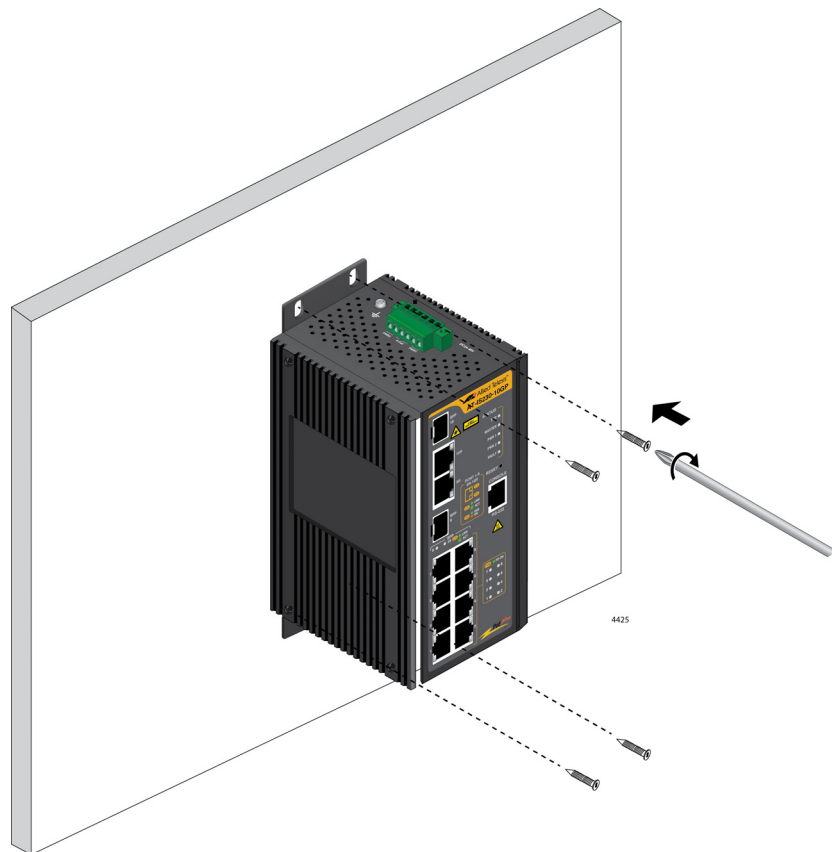

Figure 20. Install Switch Using Wall Brackets
6. Hold the switch at the selected location while you secure it with four screws (not provided). Refer to Figure 20.